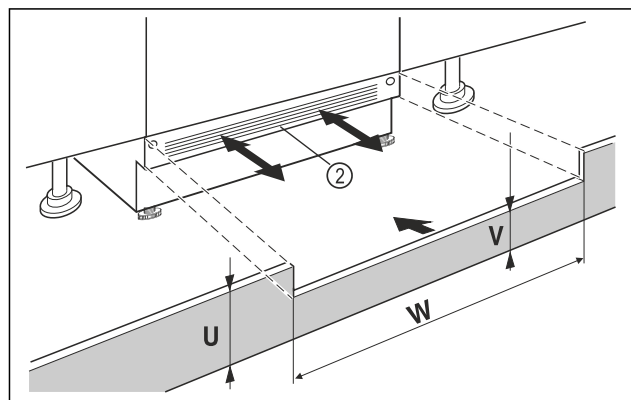

Fig. 69 Example illustration
- Put on the appliance base cover Fig. 69 (2) but do not fix it yet.
- If the base cover Fig. 69 (2) is visible, pull it so far forward that the front edge of the ventilation grille and the unit base cover form one level.
- If the base cover is concealed Fig. 69 (2), push it all the way back.
- Ensure that the ventilation slots are completely free: If necessary, cut the height of the unit base cover Fig. 69 (U) to size!
- Adjust the bar height Fig. 69 (V) under the appliance base cover Fig. 69 (2) along the recess width Fig. 69 (W).